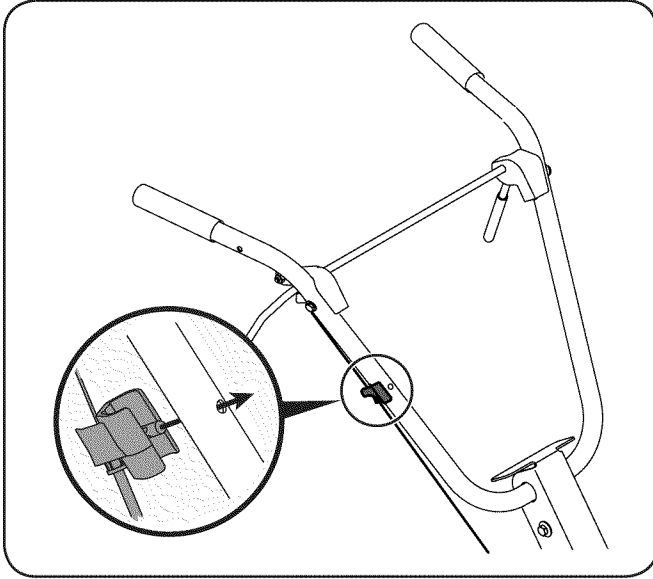

Figure 3-3
5. Insert the clutch cable handle fitting into the hole on the right side of the upper handle. See Fig. 3-3.